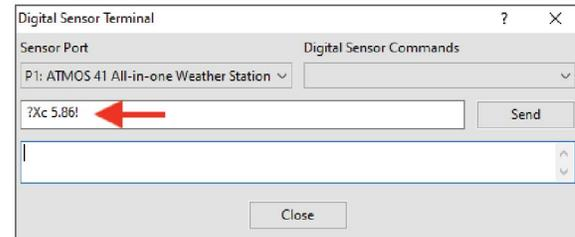

Figure 23. ?Xc Y.YY! command entered
- Enter the **?Xc Y.YY!** command in the prompt field where **Y.YY** is the new pyronometer CAL Factor (Figure 23).